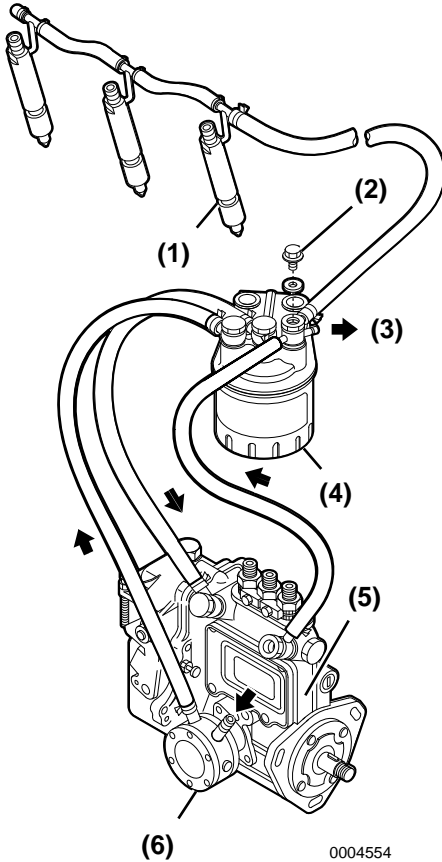

Figure 5
3. Loosen the air bleed screw **(Figure 5, (2))** 2 - 3 turns.
4. Push up and down on the priming pump **(Figure 5, (1))** to release air out of the air bleed screw.